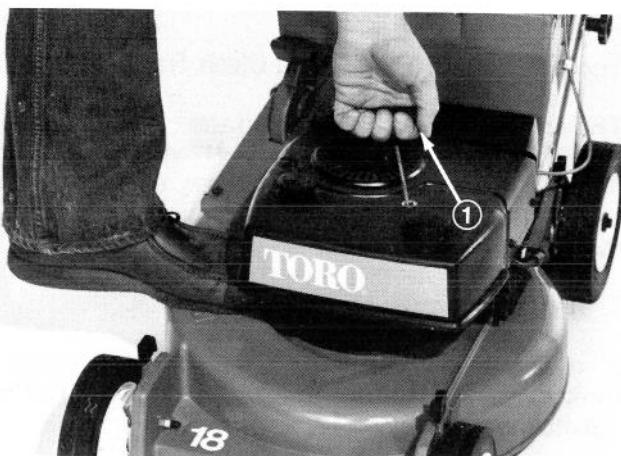

Figure 11
**Recoil Starter** (Fig. 11) — Pull fingertip starter to start the engine.